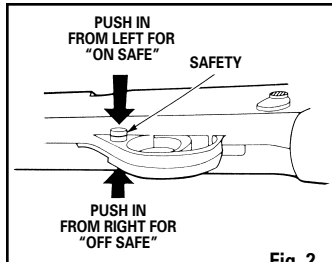

Fig. 2
- Push the safety from the left side all the way in (Fig. 2). The safety is not "On Safe" unless it is pushed all the way in and the RED ring around the safety is not showing. The air rifle will not fire when "On Safe".